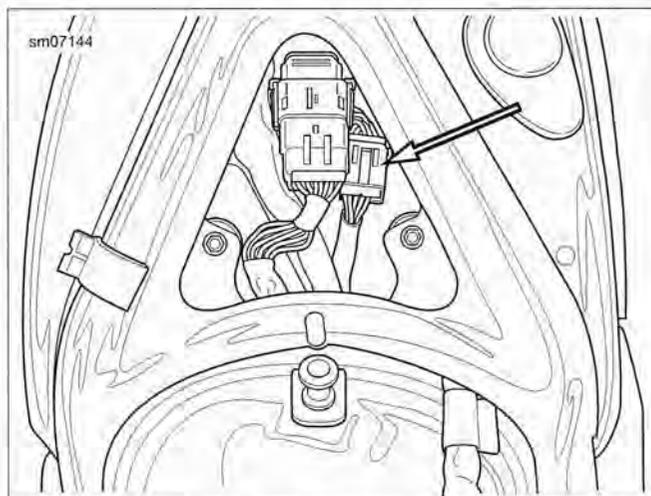

Figure 2-195. Rear Lighting Connector [7]
3. See Figure 2-195. Disconnect the rear lighting connector [7] (2) housings.